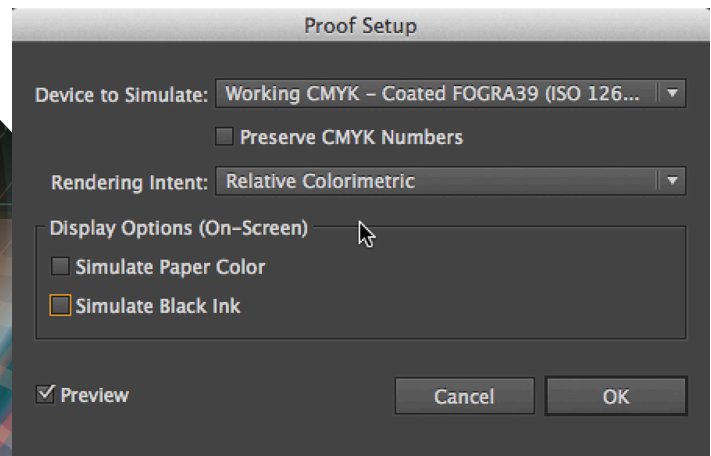

Figure 48
2. In Proof Setup (Figure 48), select the Device to Simulate you wish to preview, or load another profile if the desired proof condition doesn't show in your menu. A nice feature in this window is the ability to preview without closing the window, so you can quickly test your design with different paper/profiles profiles, toggling the Preview check box on and off to see the effect.